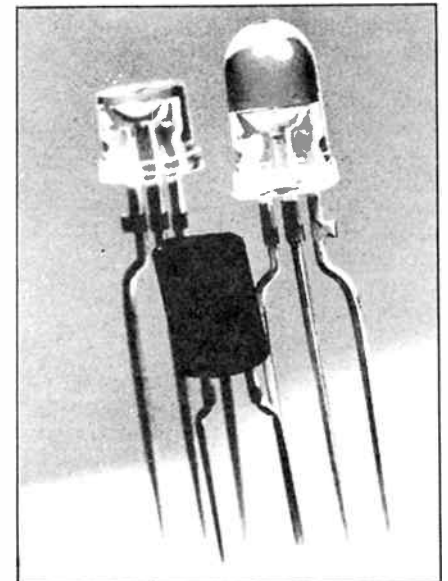

Fig. 13. Some typical photo transistors with in the centre an infra-red photo diode.
**Light sensors.** Popularly probably the best known type of sensor is the light sensor. This can be based on a photo diode, photo transistor (see Fig. 13), p-i-n diode, photo varistor, or solar cell. All of these are made from the same material, silicon, and function in similar fashion at wavelengths from about 400 nm to around 1000 nm.